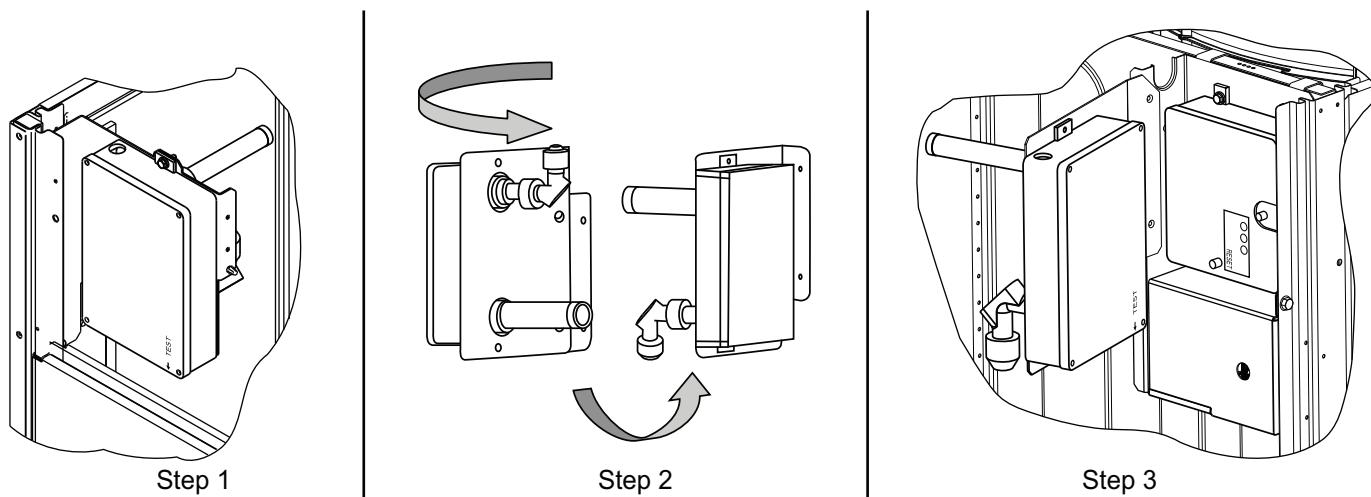

Fig. 68 — Completing Installation of Return Air Smoke Sensor
1. Unscrew the two screws holding the return-air smoke detector assembly. See Fig. 68, Step 1.
3. Turn the assembly 90 degrees and then rotate end to end. Make sure that the elbow fitting is pointing down. See Fig. 68, Step 2.
4. Screw the sensor and detector plate into its operating position using screws from Step 1. See Fig. 68, Step 3.